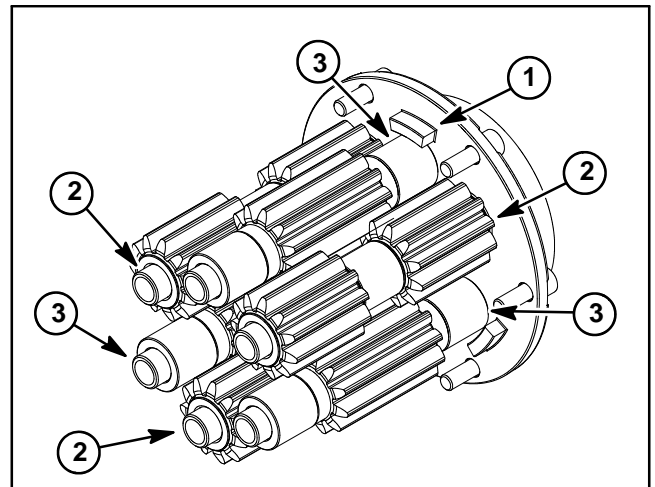

Figure 29
5. Note locations of projections on inside of cover for assembly purposes. The projections need to be aligned with the gear pins that have one (1) gear (Fig. 29).
6. Slide each gear pin with gears and spacers from cover. Note location of gears and spacers on each of the six (6) gear pins.
7. If necessary, remove ball bearings from cover and housing. There are two (2) holes in the cover and housing that allow use of a pin punch to remove bearings. Discard removed bearings.
3. Slide each gear pin with gears and spacers into cover. Make sure that projections on inside of cover are aligned with the pins that have one (1) gear (Fig. 29).